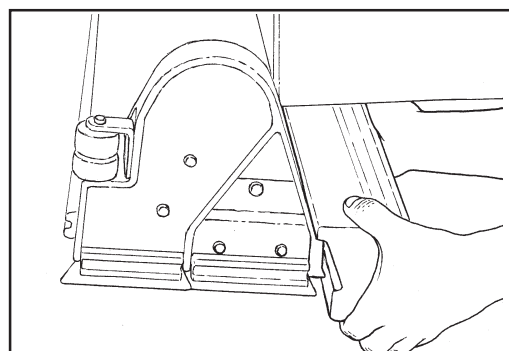

Figure 29
7. The debris tray needs to be emptied regularly to prevent overflow. To remove the debris tray from the machine, follow this procedure (see figure 29):